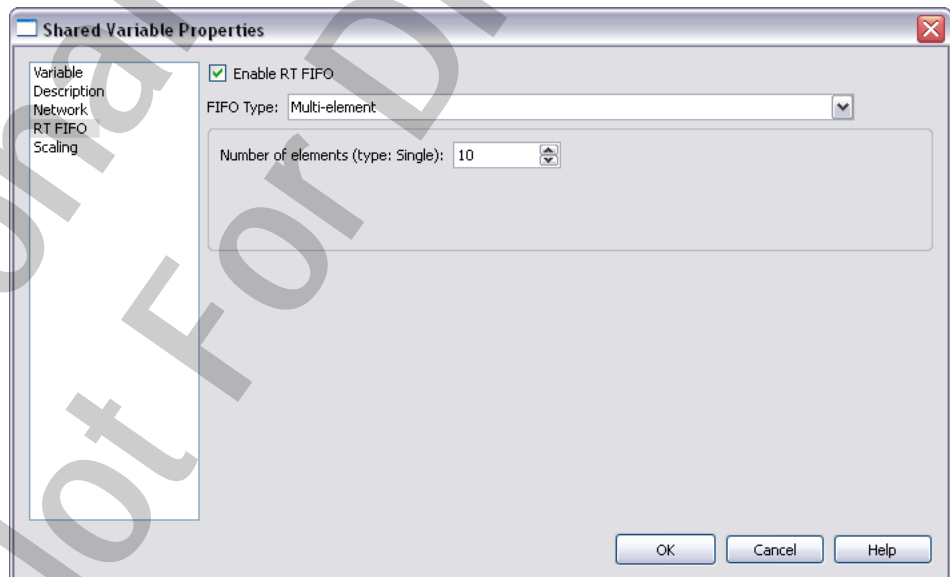

Figure 8-5. Temperature Shared Variable RT FIFO Properties
- ❑ Examine the RT FIFO properties of the variable as shown in Figure 8-5.